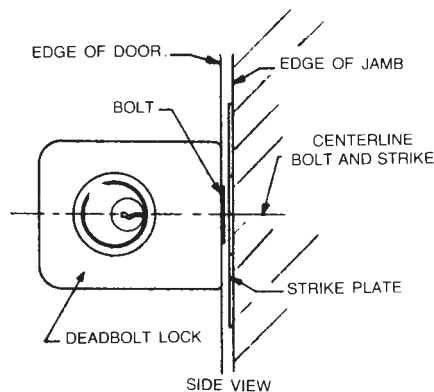

Figure 13.48 Line up the strike plate to the locking bolt. (M.A.G. Engineering and Mfg., Inc.)
2. Open the door. Place the strike plate against the door, ensuring that it lines up with the bolt mark centered on the strike plate hole (Fig. 13.48).